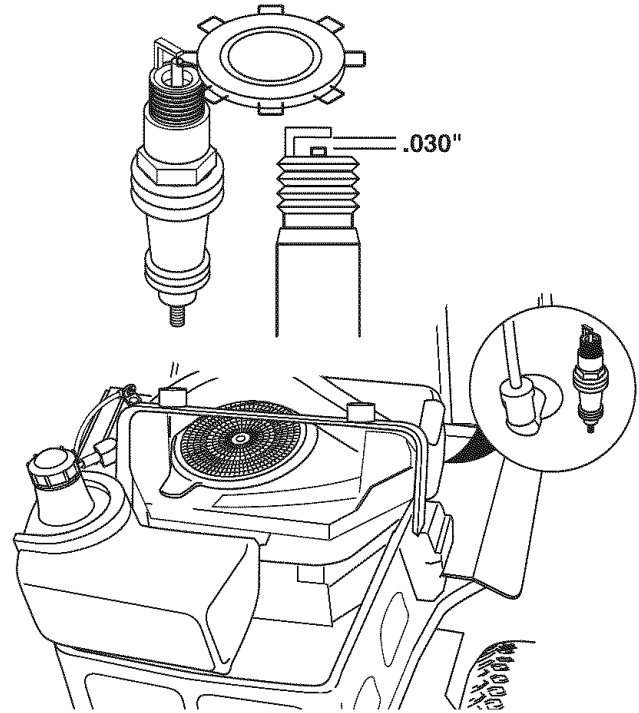

Figure 29. Spark Plug Gapping
4. Check the spark plug gap. The gap (new or used plug) should be .030" (see Figure 29).